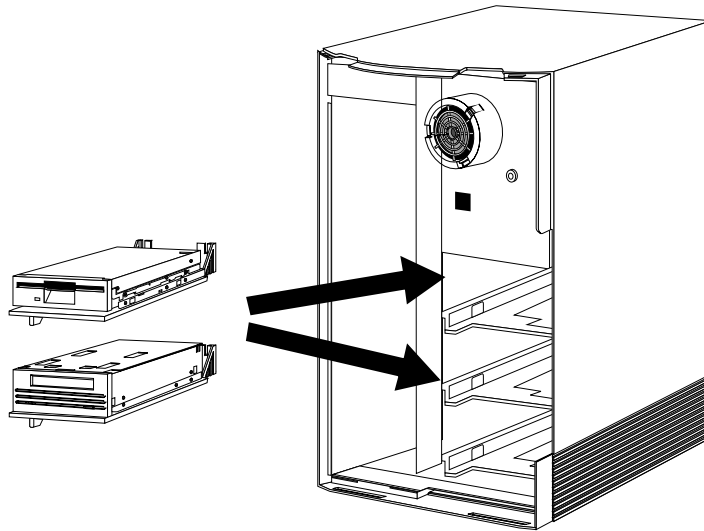

Figure 2-7 Installing the Option Drives in the Top or Middle Slot
- Install option drives the same way you installed the system disk, but install them in the top or middle slot, as shown in Figure 2-7.